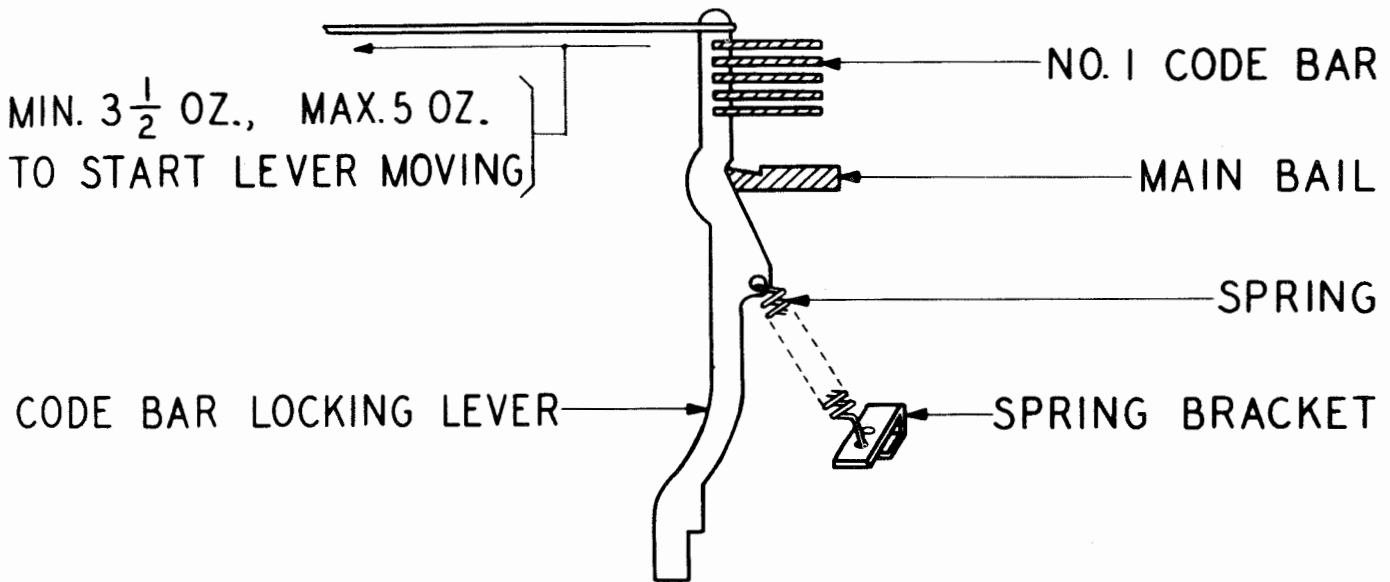

Figure 24
2.38 Codebar Locking-lever Spring: It shall require a pull as indicated in Figure 24 to just start the locking lever moving when the mainbail is in its uppermost position and the codebar bellcranks are held away from the locking lever.